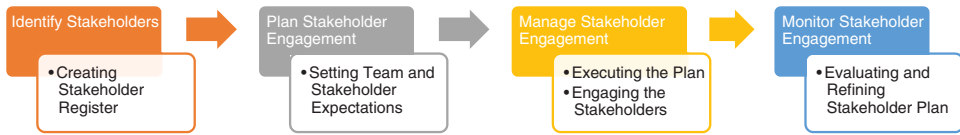

Figure 9.4 Stakeholder engagement plan.
Figure 9.4 shows the four distinct processes that comprise the Stakeholder Engagement Plan: (1) Identify Stakeholders, (2) Plan Stakeholder Engagement, (3) Manage Stakeholder